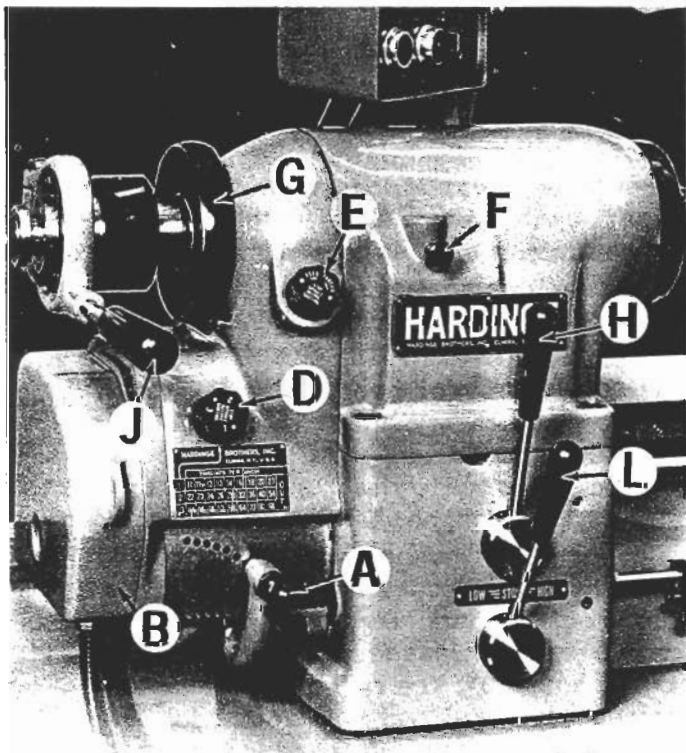

Figure 9 — Control Levers
6. Place control lever "H", Figure 5, in center or vertical position. Place lead screw nut handle "M", Figure 11, to left (counter-clockwise) position. Jog spindle by moving lever "L", Figure 9, from Low to Stop in rapid succession. THE SPINDLE TURNS CORRECTLY COUNTER-CLOCKWISE AS VIEWED FROM TAILSTOCK END OF MACHINE.
Control lever "L", Figure 9, controls the spindle speed change from "High" to "Low" range, which is accomplished through the 3:1 ratio motor. The solenoid-operated brake will be automatically applied when lever "L" is in center position.
TO START SPINDLE, pull out lock pin "F", Figure 9, press "Start" button "K", Figure 6, and move control lever "L", Figure 9, to "Low" or "High" position to start spindle. Move lever "L" to "Stop" position and push button "M", Figure 6, to shut machine off. Selector switch "G", Figure 6, controls direction of headstock spindle rotation.
The spindle lock pin "F", Figure 9, is used to hold the headstock spindle stationary when applying or removing spindle nose attachments, adjusting collet closer, or when applying and removing work from fixtures or a threaded arbor. To engage lock pin "F", turn spindle by hand and push in until pin enters one
To obtain a "Free Spindle" for easy turning of the headstock spindle by hand, place operating lever "L", Figure 9, in "Stop" position, push start button "K", Figure 6, and turn brake switch "H", Figure 7, to "Off" position.
To change spindle speed, start spindle and push button "R", Figure 7, to increase speed, and button "S" to decrease speed. Hold button until desired speed is indicated in sight window. Speeds in left-hand column are obtained with lever "L", Figure 9, in "Low" position, and speeds in right-hand column are obtained with lever "L" in "High" position. The spindle speeds should be selected to suit each particular job, depending on material, type of cut and tool to be used.
The spindle brake is built for rapid but gradual stopping of the precision headstock spindle at all speeds. The brake is automatically applied when lever "L", Figure 9, is placed in center position and selector switch "H", Figure 7, is in "Brake" position.